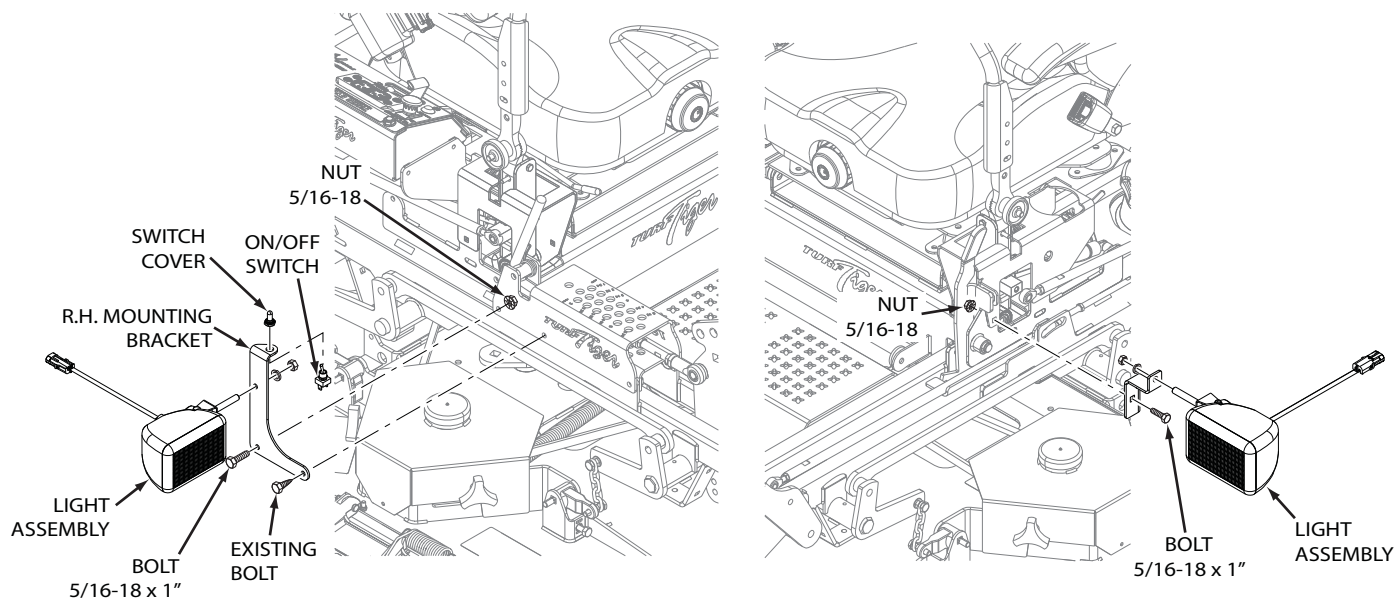

Figure 1. Light Kit Installation
2. Remove the two rear mounting bolts from the cutter deck height adjustment bracket. Install the right hand light bracket to the rear holes on the cutter deck height adjustment bracket. See Figure 1. Secure using (1) one 5/16-18 x 1" bolt, (1) one 5/16-18 serrated flange nut and the self tapping bolt removed from the center hole. See Figure 1.
3. Install the light switch and switch cover to the right hand mounting bracket and secure. See Figure 1.
4. Remove the front mounting bolt from the left hand control bracket. Install the left hand light bracket to the left hand control bracket. See Figure 1. Secure using (1) one 5/16-18 x 1" bolt and (1) one 5/16-18 serrated flange nut. See Figure 1.